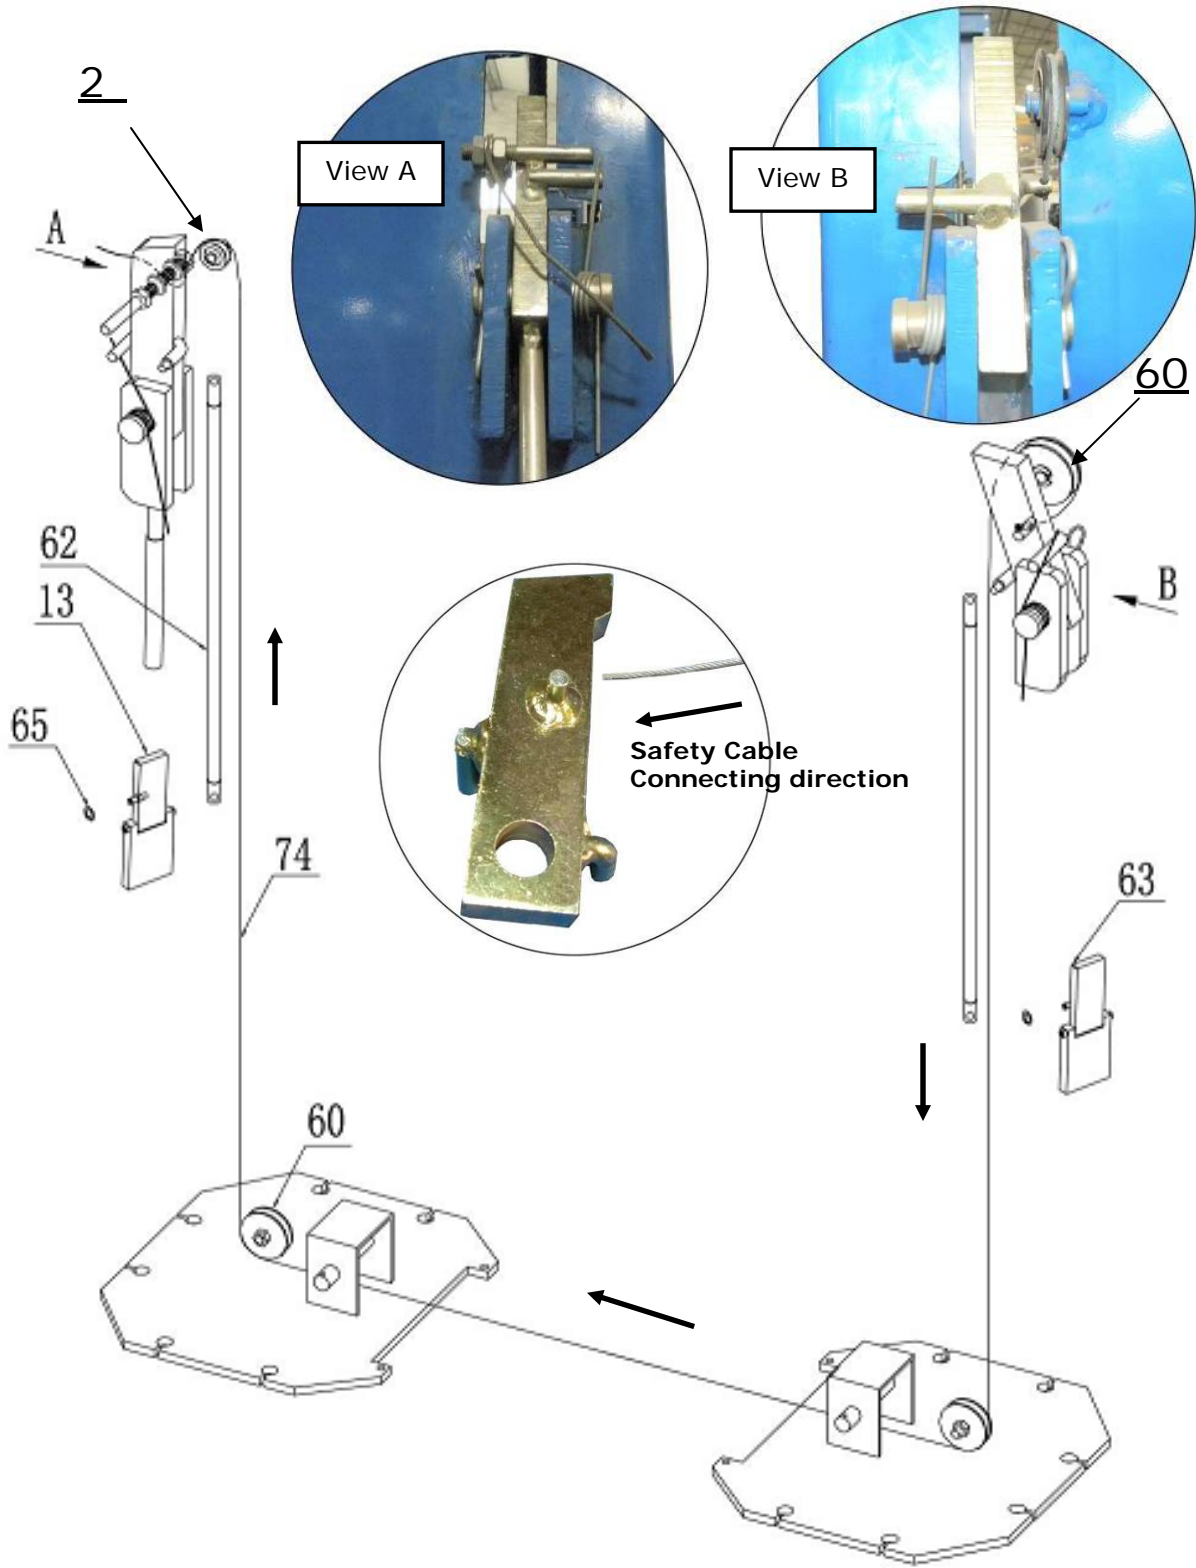

Fig. 29
L. Install Safety Device and Safety Cable (See Fig. 29).